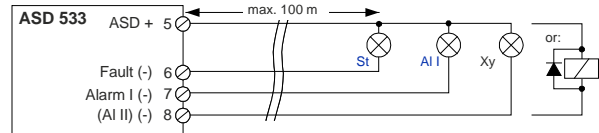

Fig. 39 Interconnecting the OC outputs
- When connecting inductive consumers (e.g. relays), a free-wheeling diode is to be installed directly at the consumer, **Fig. 39**.